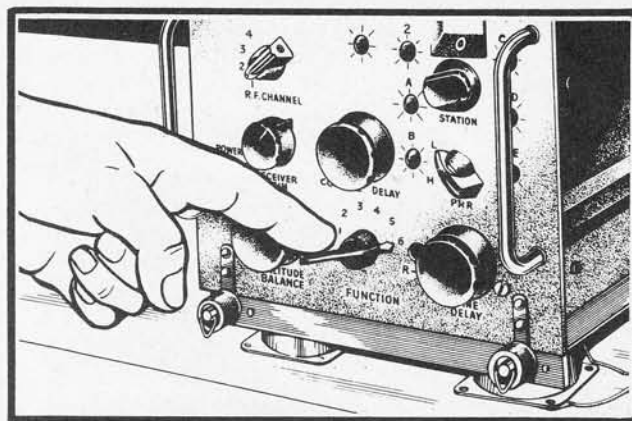

Figure 3-41
e. NAVIGATION ALONG A LORAN LINE OF POSITION.—Figures 3-41 to 3-44 are for receiver-indicator operation, navigation along a "LORAN" line of position. If the reading obtained as outlined in the above operational procedures fixes the airplane on a LORAN line of position that coincides with the airplane's plotted course, the operator may employ the receiver-indicator to fly this course by following the steps enumerated below.